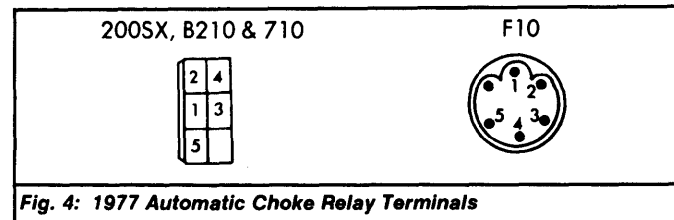

Fig. 4: 1977 Automatic Choke Relay Terminals
- 3) With engine at idle, check for voltage across terminals "A" and "B". Reading should be 12 volts. See Fig. 4. If not, check for poor connections, open circuit, or faulty automatic choke relay. Repair or replace as necessary.
1977 Models - Remove relay from vehicle. Apply 12 volts across terminals No. 1 and 3 (3 and 4 on F10). See Fig. 4. With voltage applied, continuity should exist between terminals No. 2 and 4 (1 and 2 on F10). If results are incorrect, replace relay.